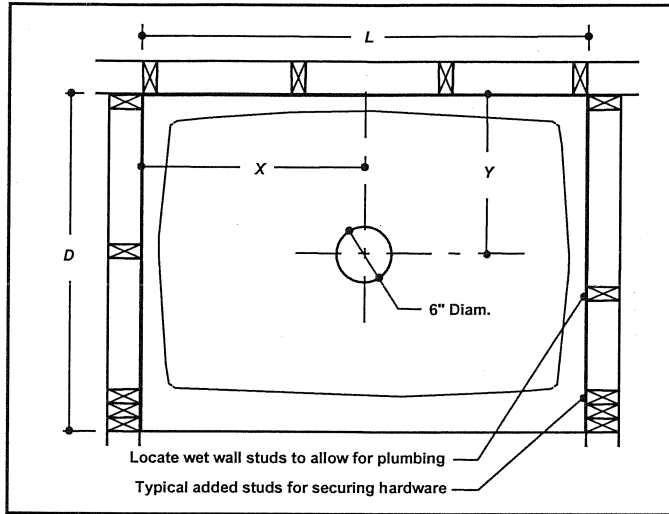

Fig. 2
- Step 1. Check the size of the opening against the required rough-in dimensions (See Shower Base Dimension Table). Check that walls are plumb, square and flat. Walls should be within 1/8" of true. Shim or trim opening, as required. Walls must be structurally sound and must provide the studding or blocking necessary for securing shower door or enclosure hardware, handrails, seats etc. (See Fig. 2, 3 & pg. 6, 7 & 8). Check drain hardware manufacturer's installation instructions for 2" drain pipe requirements.
- Step 3. Locate, mark and cut a 6" - 7" diameter hole in the floor for floor drain clearance (See Fig. 2 or 3).